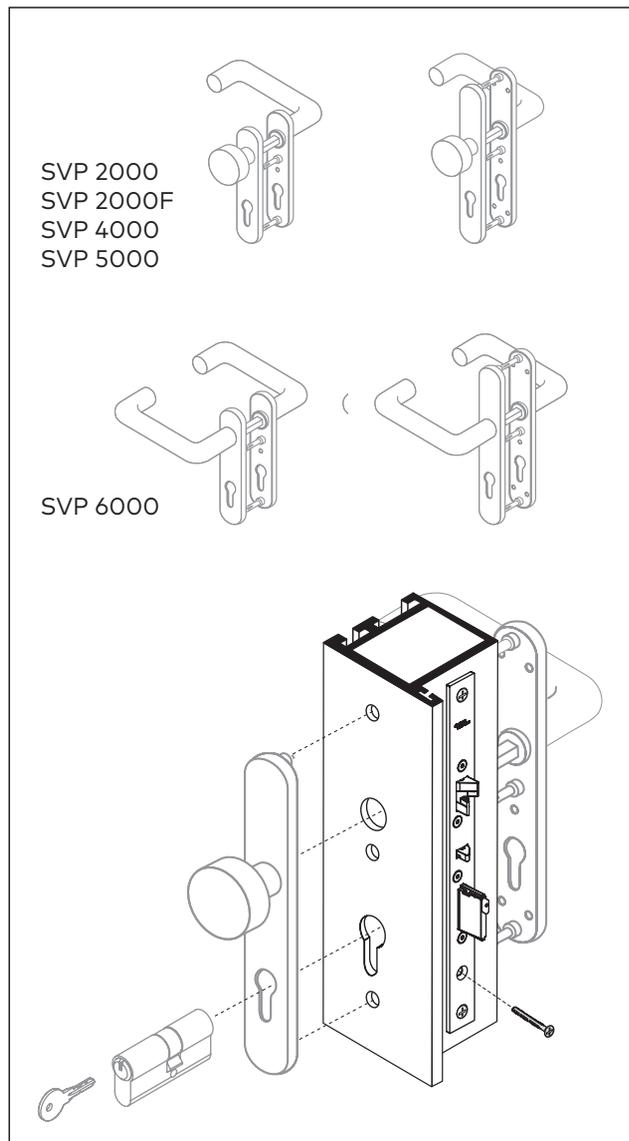

Fig. 18 Mount door handle and locking cylinder
4. Mount the door handle and locking cylinder (Fig. 18).